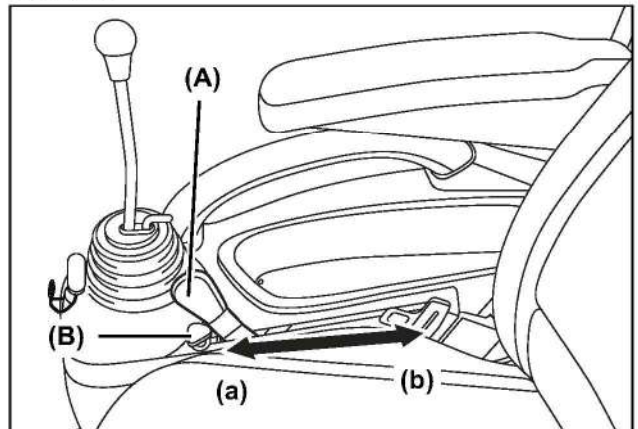

Fig 11-1
1. Use the 3-point hitch control lever (Fig 11-1, A) to raise and lower the implement that is attached to the 3-point hitch.
2. Adjust the position stop knob (Fig 11-1, B) to set the implement to the lowest possible height.